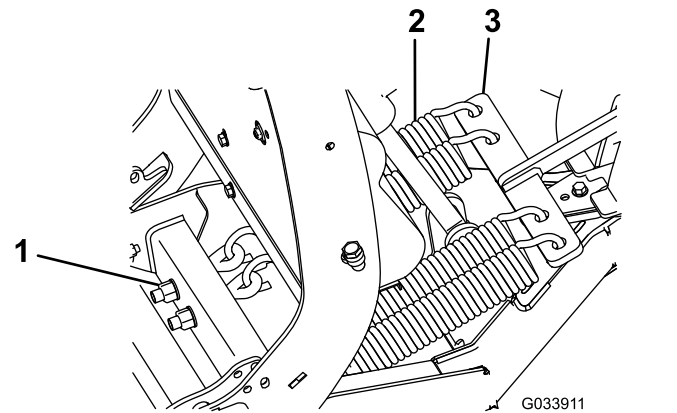

Figure 23
- Loosen and carefully remove the 4 lock nuts and 4 washers from the trip-spring eye bolts (Figure 23).